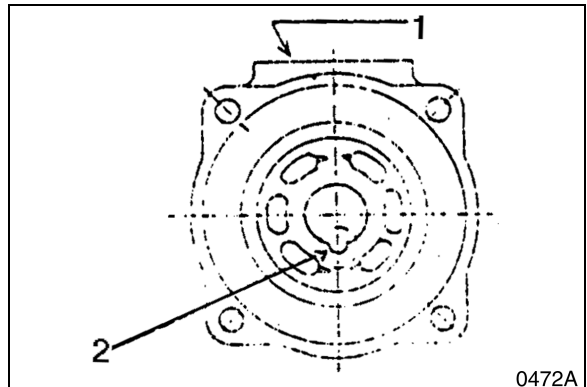

Figure 42
17. Assemble valve plate (131), O-ring and upper valve casing (303). Refer to assembly that shows "R" part (2, Figure 42) of the valve plate turned away from mounting flanges (1) on side of valve plate. Lightly grease O-ring to help keep it in place during assembly.